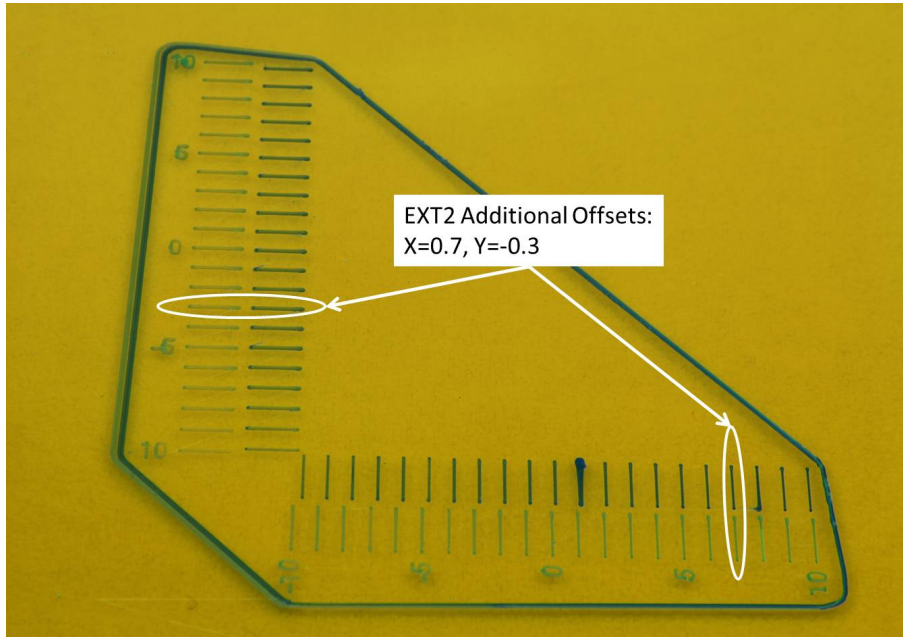

Figure 6.10: Defining additional nozzle offsets
- After printing out the model, check the location where the green and blue lines align to each other. Each marker line represents an additional 0.1mm offset. Figure 6.10 shows the additional offsets for Extruder 2 are:  $X = 0.7mm$ , and  $Y = -0.3mm$ .